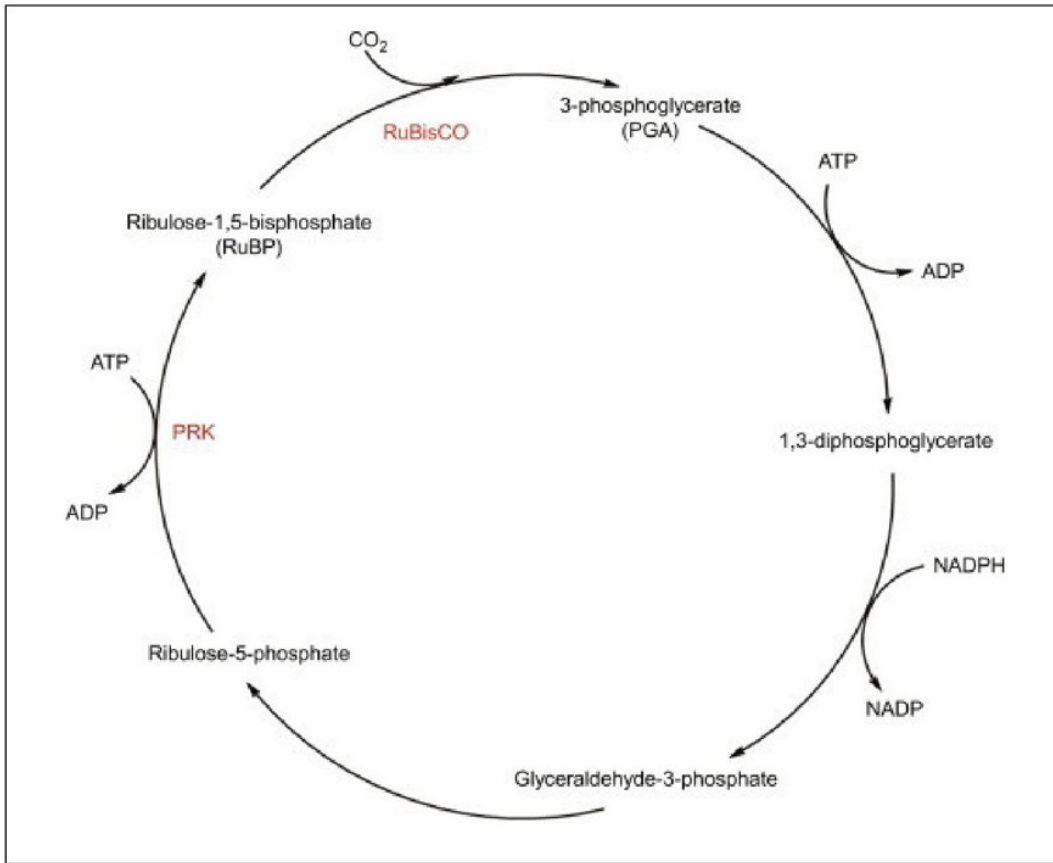

Figure 15 – Calvin Cycle
In the Calvin Cycle, carbon dioxide (CO₂) is absorbed into the chlorophyll-bearing cells of the plant. With help from an enzyme (present in the plant) called RuBisCo, the ribulose 1,5 bi-phosphate present in the plant fibers is converted into two, three-carbon molecules of 3-phosphoglyceric acid. Energy from ATP, along with assistance from electron carrier coenzyme NADPH (both created in the photosynthesis process), removes a phosphate group from the 3-phosphoglyceric acid to make diphosphoglycerate which is in turn reduced to produce the three-carbon sugar, glyceraldehyde-3-phosphate. This three carbon sugar is turned into fructose diphosphate which the plant uses to create various formats of sugar-type molecules which are used in creating new plant structure. Figure 15 is taken from The Energy Dictionary, and illustrates the basics of the Calvin Cycle. (1)